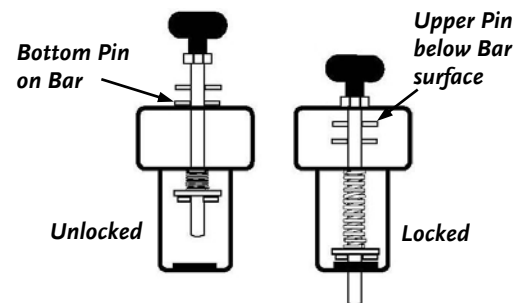

Figure 15b
2. Rotate the Handle again until the Bottom Spring Pin is 90° to the Slots in the Tow Bar and lower the Handle until the Bottom Spring Pin (**Figure 15b**) rests on the Tow Bar. This is the unlocked position.
**NOTE:** If the Tow Bar alignment is correct and the Locking Pin is properly positioned, the Upper Spring Pin will not be showing. If the Upper Pin is still visible, adjust the Tow Bar angle by moving the Mower until the Locking Pin can be pushed down into place and the Upper Pin is no longer visible (**Figure 15b**).